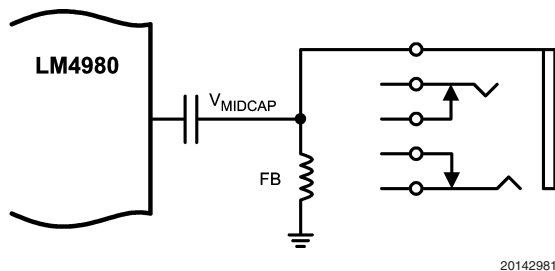

FIGURE 3. Adding a ferrite bead improves ground-noise suppression
In addition to the output-ground noise reduction afforded by C_{MIDCAP} , further reduction can be achieved by the inclusion of a ferrite bead. The ferrite bead (FB) is placed between ground and common connection between the C_{MIDCAP} and the headphone ground connection. This is shown in Figure 3. The ferrite bead is beneficial in environments where the headphone and C_{MIDCAP} ground connection is shared with circuitry (such as video) that may inject noise on a common ground.